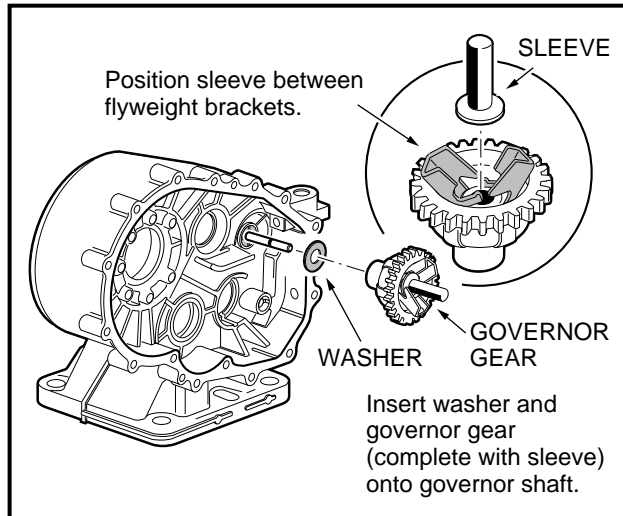
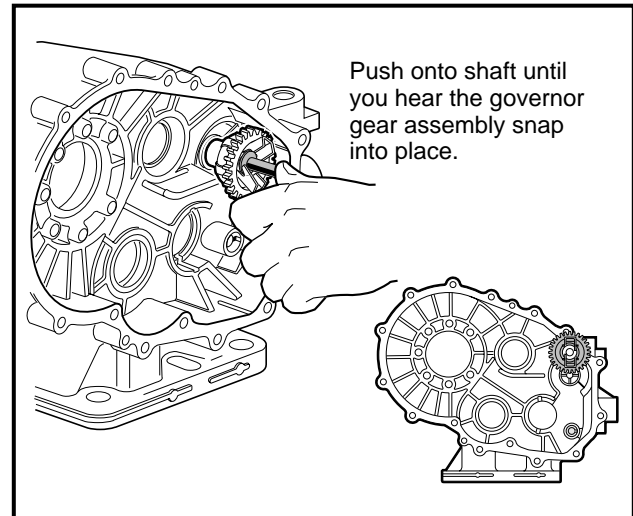

Figure 16-68 Position Governor Gear
Figure 16-69 Install Governor Gear
4. Install the washer, governor gear, and sleeve together onto the governor shaft (**Figure 16-68, Page 16-31**). Make sure the sleeve is properly positioned within the flyweight brackets of the gear as shown (**Figure 16-69, Page 16-31**), and then push them onto the shaft until the gear snaps into the groove on the shaft.